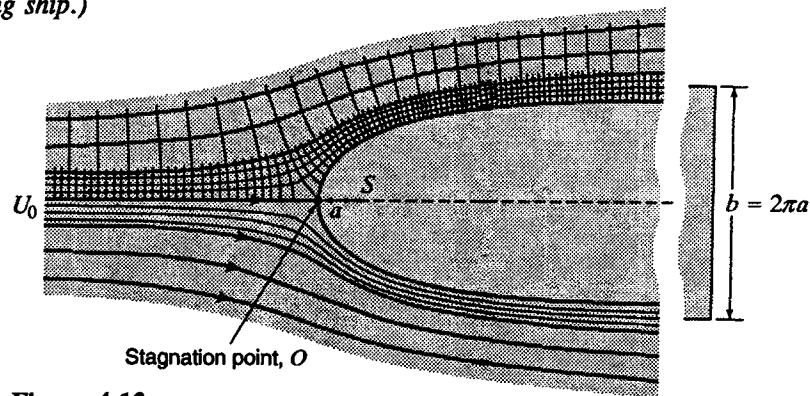

Figure 4.12
5.8 In Fig. 4.12 the velocity of the undisturbed field is 6 m/s and the velocities very near the surface at radii from the "source" making angles with the axis of 0, 60, 120, 150° are 0, 4.8, 6.5, 6.0 m/s respectively. What will be the elevation of the liquid surface relative to that of the free surface of the undisturbed filed? (This problem illustrates that way in which the water surface drops alongside a bridge pier or past the side of a moving ship.)